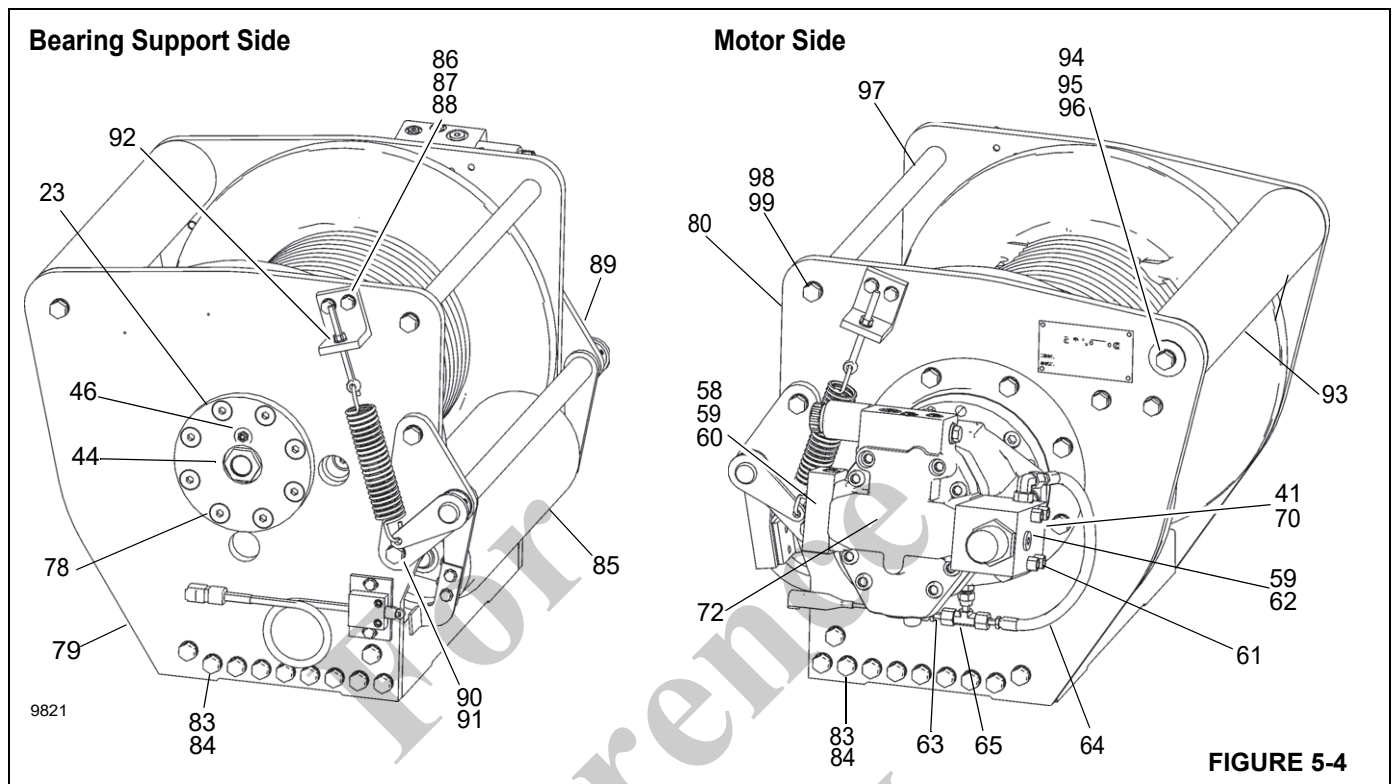

FIGURE 5-4
3. Remove the roller assembly (85, Figure 5-4). For more information, *Roller Assembly*, page 5-10.
5. Remove the oil level sight gauge (44).
6. Remove the vent plug (46).
8. Tag and remove the hydraulic hoses (63 and 64) that connect the brake valve (62) and manifold (60) to the brake cylinder (1).
9. Remove the capscrews (70) and lockwashers (41) securing the motor (72), and lift the motor off of the hoist. Remove and discard the O-ring (33) installed on the pilot of the motor.
10. Tag and remove the hoses (63 and 64) and fittings (65) from the brake cylinder release port.
16. Remove the seal (29) and bearing (26) from inside of closure.
17. Remove the primary sun gear (35) and thrust washer (31) from the primary planet carrier (10).
18. Remove the primary planet carrier (10) from the drum. Refer to *Planetary Set*, page 5-11 for additional information.
19. Remove the output sun gear (34) and thrust washer (43) from the output planet carrier (16).
20. Remove the output planet carrier (16) from the drum. Refer to *Planetary Set*, page 5-11 for additional information.
21. Stand hoist on motor end with bearing support up. Remove eight bearing support capscrews (78, Figure 5-4) and bearing support (23, Figure 5-4 and Figure 5-5) being careful to avoid damaging the sealing or bearing surfaces.
22. Slide drum out of base onto a work bench and remove seal (27) and bearing (26) from support end.
Refer to Figure 5-4 and Figure 5-5 and the Hoist Parts List on page 5-8 to disassemble the hoist.
14. Install the hoses (63, 64, Figure 5-4) and fittings (65) to the brake cylinder release port.
16. Engage the motor shaft with the brake clutch inner race and lower motor into place. Tighten capscrews (70) and lockwashers (41) to recommended torque.
17. Install the hoses (63, 64, Figure 5-4) that connect the manifold (60) and brake valve (62) to the brake cylinder (1).
18. Install the roller assembly (85). For more information, see *Roller Assembly*, page 5-10.
20. Install the oil level sight gauge (44).
21. Install the vent plug (46).